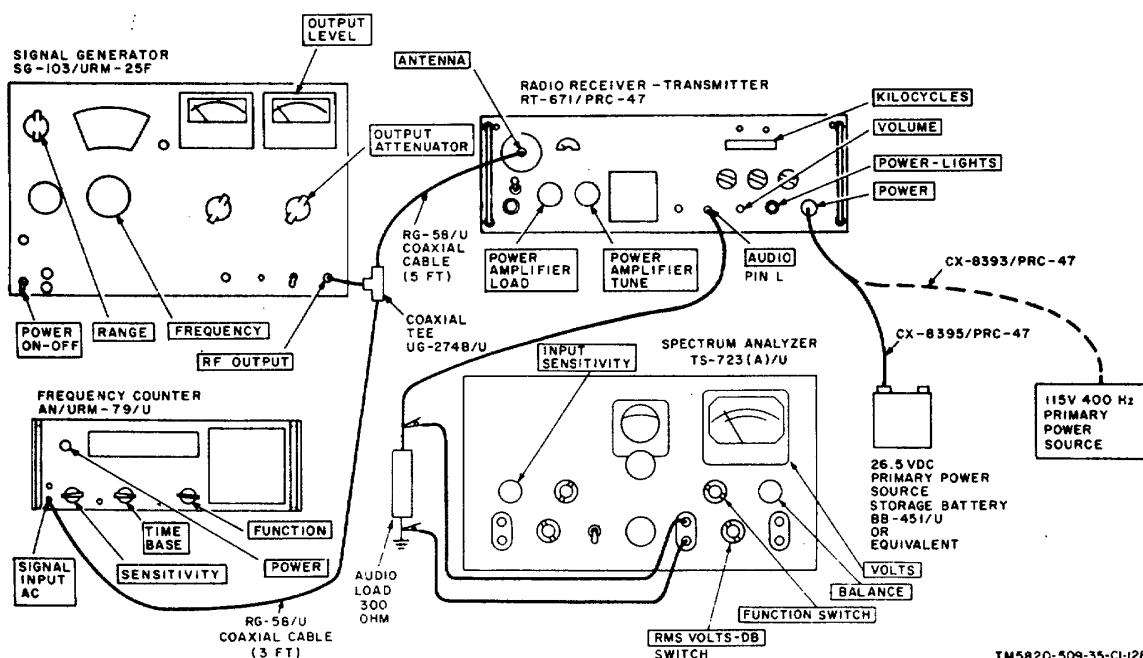

Figure 4-1. Receiver Sensitivity, AVC Selectivity, IF. Rejection, Image Rejection, and Volume Control Tests, Equipment Setup.
(fig. 4-1)
(1) Connect the test equipment to Radio Receiver-Transmitter RT-671/PRC-47 as shown in figure 4-1.
(2) Connect the 115-volt primary power source to the receiver-transmitter.
(3) Turn on the test equipment and place the POWER-LIGHTS switch of RT-671/PRC-47 to POWER ON. Permit the equipment to stabilize for at least 6 minutes before beginning the procedures shown in the chart below.
(1) Connect the test equipment to Radio Receiver-Transmitter RT-671/PRC47 as shown in figure 4-1.
(2) Connect the primary power source to the receiver-transmitter.
(3) Turn on the test equipment and place the POWER-LIGHTS switch of RT-671/PRC 47 to POWER ON. Permit the equipment to stabilize for at least 5 minutes before beginning the procedures shown in the chart below.
(3) Turn on the test equipment and place the POWER-LIGHTS switch of RT-671/PRC-47 to POWER ON. Permit the equipment to stabilize for at least 5 minutes before beginning the procedures shown in the chart below.
(3) Connect the primary power source to the receiver-transmitter.
(3) Turn on the test equipment and place the POWER-LIGHTS switch of RT-671/PRC 47 to POWER ON. Permit the equipment to stabilize at least 5 minutes before beginning the procedures shown in the chart below.
(fig 4-1)
(3) Turn on the test equipment and place the POWER-LIGHTS switch on RT-671/PRC-47 to POWER ON. Permit the equipment to stabilize at least 5 minutes before beginning the procedures shown in chart below.